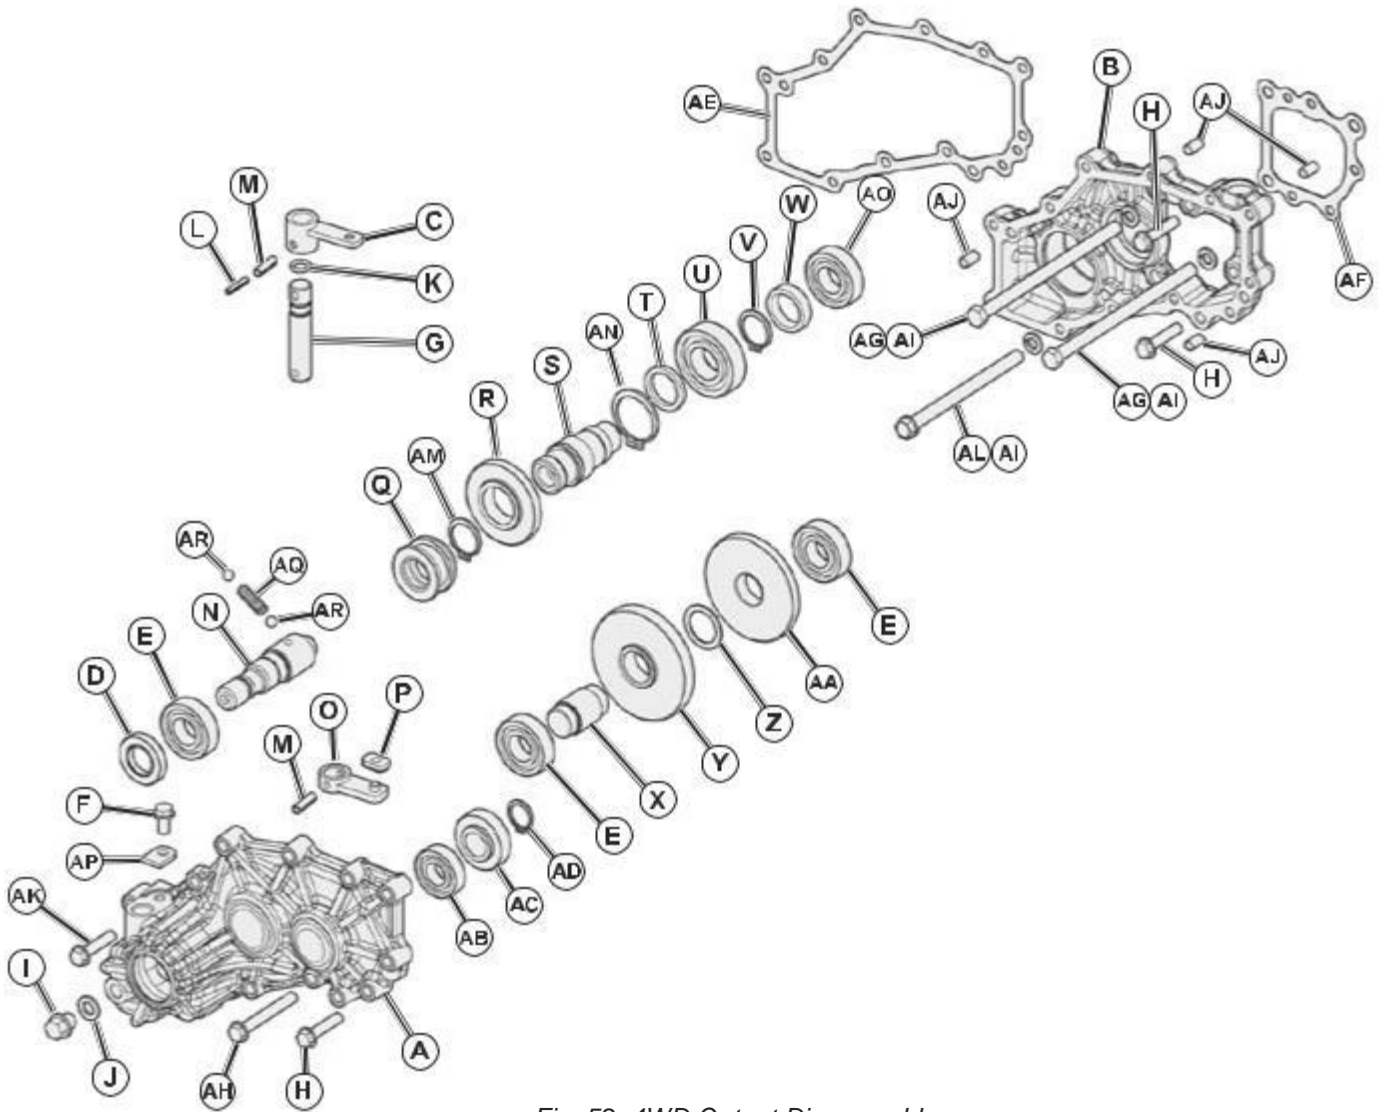

Fig. 52, 4WD Output Disassembly
NOTE: Snap ring (AD) on motor shaft does not need to be removed for the 4WD gear case removal. Unless replacement is necessary. (Fig. 52).
NOTE: Replace O-ring (K, see fig. 52) on 4WD shift shaft when reinstalling.
22. Inspect sleeve on 4WD output shaft (N) for wear. Re-place, as necessary.
23. Inspect splines on 4WD output shaft (N) and shift collar (Q) for damage. Replace as required. (Fig. 52)
24. Inspect groove in shift collar (Q) for scoring or damage. Replace as required.
Replace the gasket (AE, see fig. 52), and gasket (AF, only if 4WD gear case was removed) or use a thin bead of silicone sealant between motor case assembly and 4WD gear case. Also, between 4WD gear case and 4WD cover.